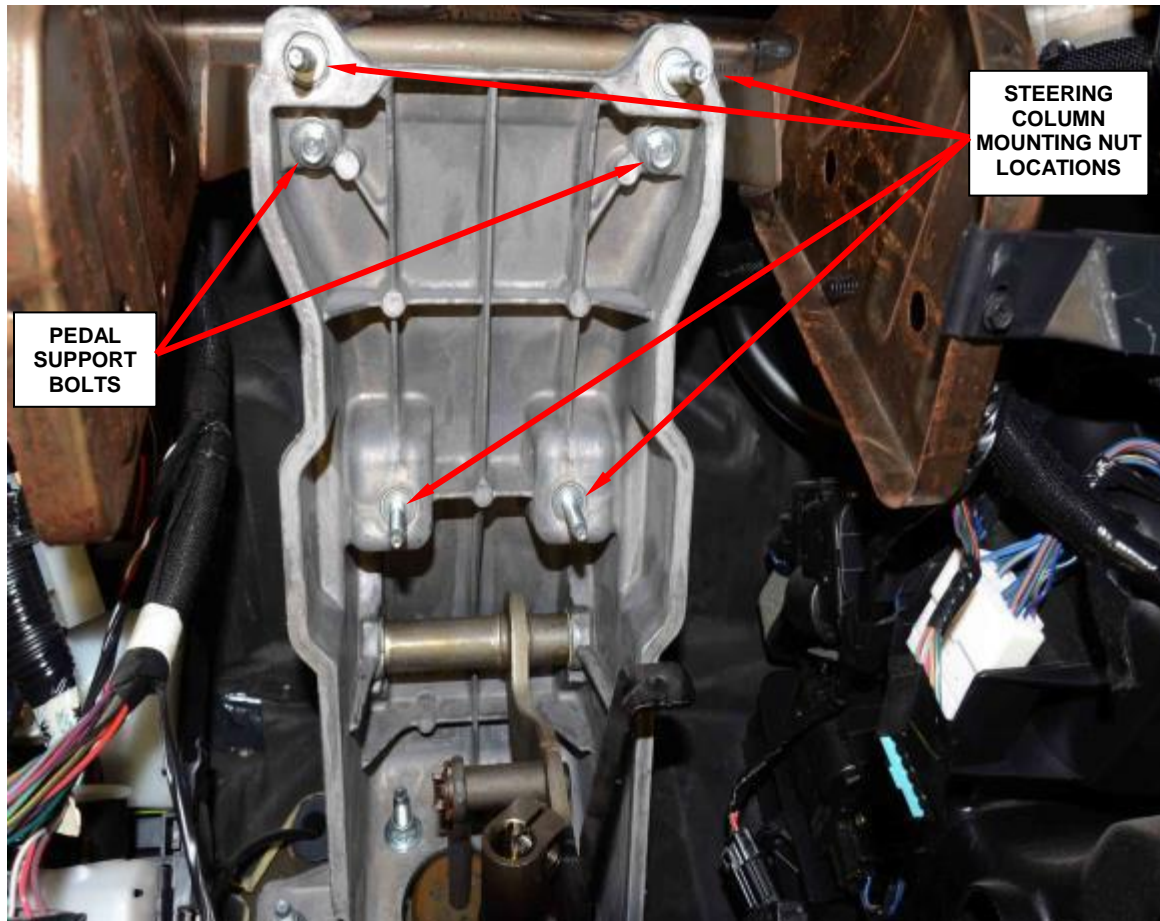

Figure 68 – Pedal Support Bolts
18. Remove the bolts from the pedal support (Figure 68).